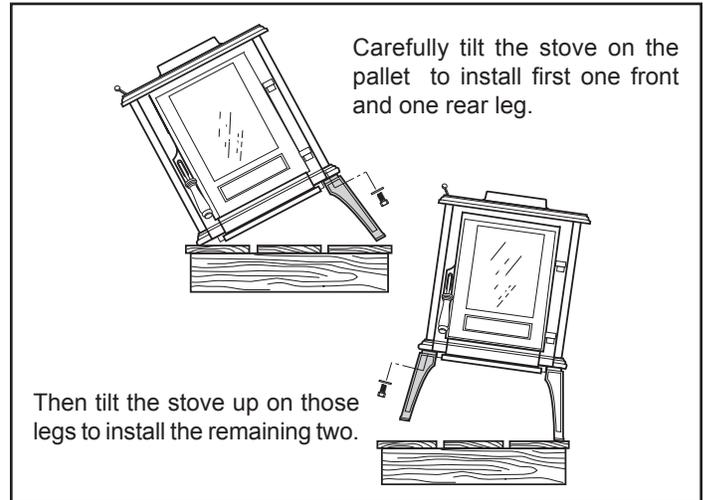

Figure 7.1 - Install legs on one side of stove then the other.
2. Install two legs, using the hex head bolts and 3/8" washers in the hardware bag. The shoulder of the legs should seat within the locator bosses cast into the stove bottom at each corner. (Figure 7.1) Tighten the bolts with the wrench. **CAUTION: Overtightening can strip tapped threads.**